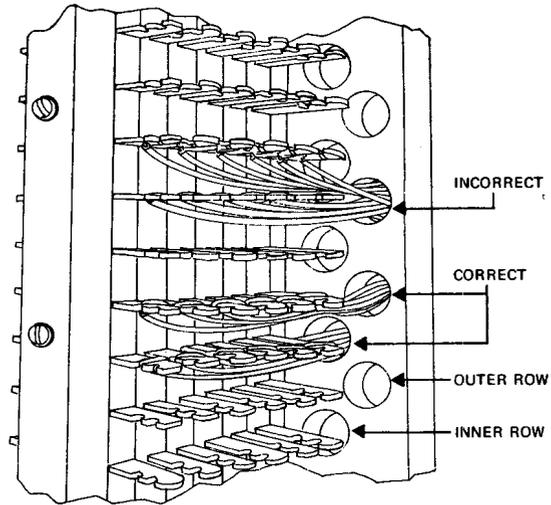

FIGURE 8.
- 5.14 Be sure to run the jumpers through the correct holes in the fanning strips of connection blocks (see Figure 8). Avoid crossing jumpers at the holes of blocks on the vertical side of the LIDF. If a jumper comes to a block (vertical) from a higher (horizontal) level, do *not* run it around existing jumpers in the outer row of holes (see Figure 8) to get to the inner row. Pull existing jumpers in the outer row toward the outer edge of the block. This will clear a *straight run* to the hole in the inner row. Make every effort to avoid running a jumper in such a way that it will interfere with another jumper.